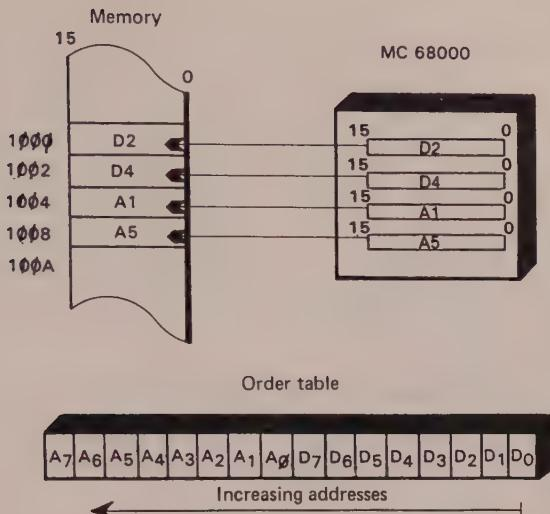

Figure 6.16 MOVEM.W A1/A5/D2/D4,\$1000
1. We take as a first example the transfer of a list of registers to a block of memory (see figure 6.16).